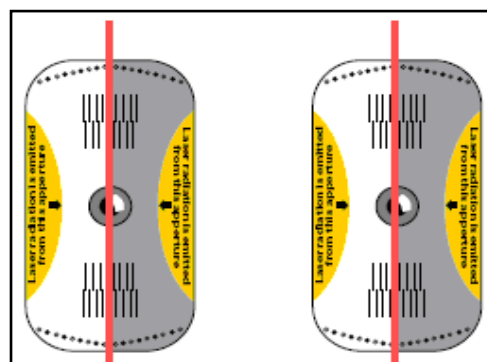

Figure 6 - Laser Positioning
- 1.12. Nudge the compressor toward the front or rear with tool at position No 3 on the vehicle, until the beam strikes the center of both graduated scales. See Figure 6.
- 1.13. Gradually apply tension on the belt until 150 ± 5 lb. using tool at position #1 and balance, if necessary, the alignment of the laser with tool at position # 2. See Figure 6.